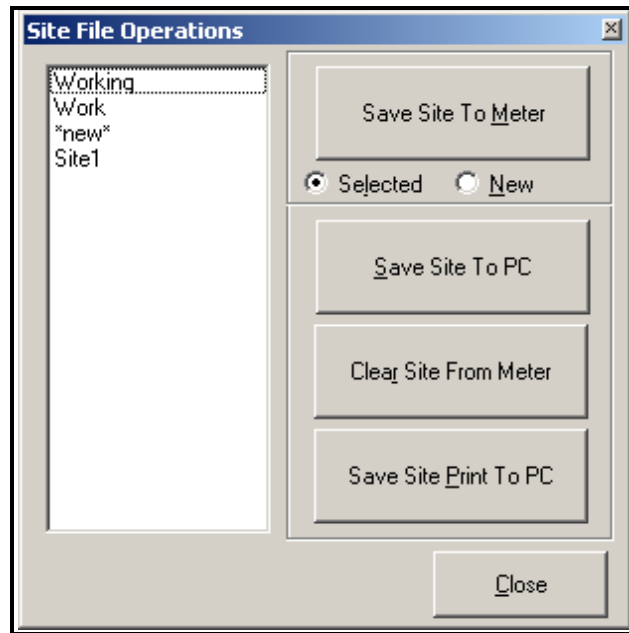

Figure F-14: The *Site File Operations* Window
To access site files, click on the *Site Files* button in the *Properties* window. The *Site File Operations* window (shown in Figure F-14 below) opens.
1. Highlight the desired site in the left pane. (See Figure F-14 on page F-12.)
1. Highlight the site in the left pane. (See Figure F-14 on page F-12.)